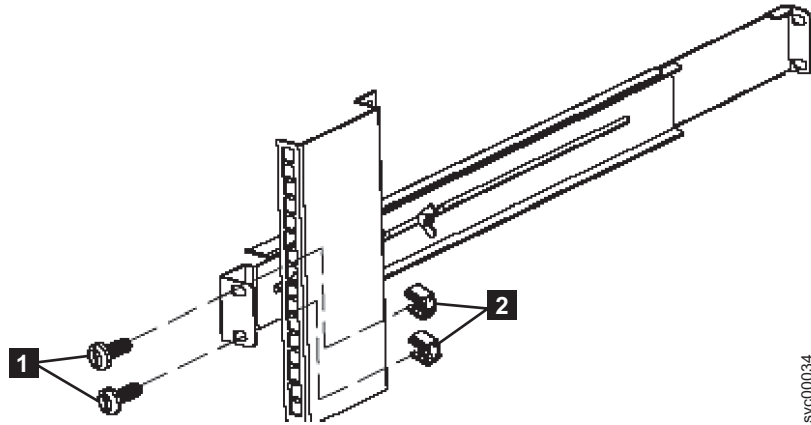

Figure 314. Removing the rear rail on the 2145 UPS-1U
5. Remove the two M6 × 10 screws from the rear side of the rail (**1** in Figure 314 on page 281) and the two clip nuts (**2**).